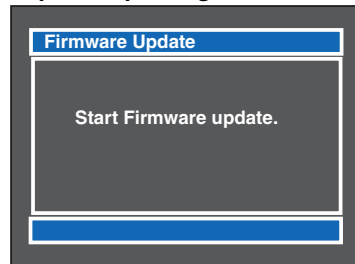
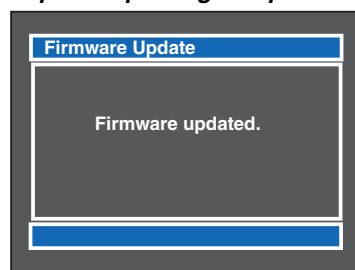

Fig. 1-2a
Fig. 1-2d
- 4) Turn the DVD video camera/recorder on: After approx. 20 seconds, the updating start screen (Fig. 1-2a) will appear, and the firmware programs will be automatically updated in sequential order. When updating of each firmware program is completed, the updating complete screen (Fig. 1-2d) will appear momentarily. (*1)